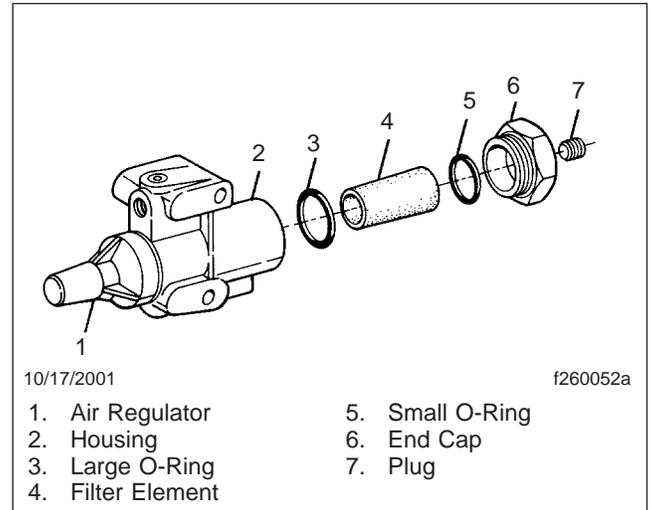

Fig. 4, Eaton/Fuller Transmission Air Filter/Regulator Components
3. Remove the end cap, large O-ring, and filter element from the filter housing. See Fig. 4. Remove the small O-ring from the end cap.